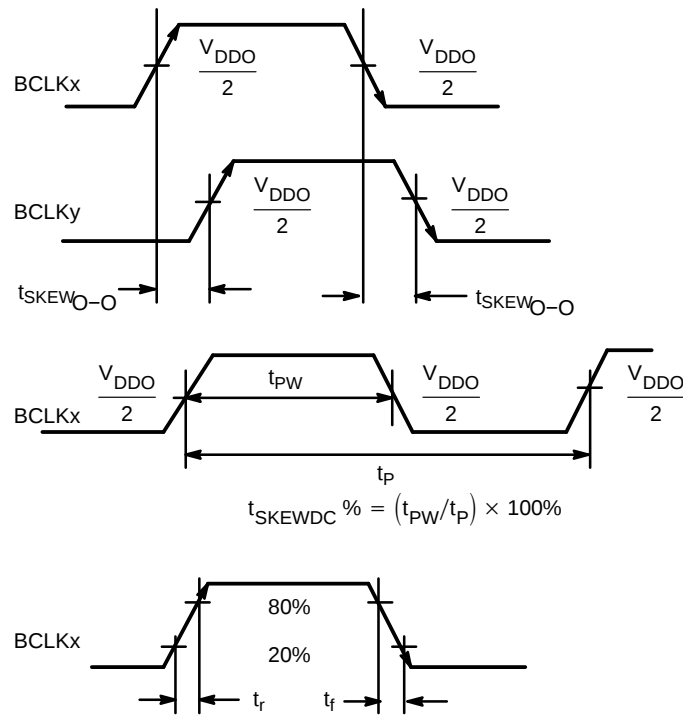

Figure 4. AC Reference Measurement
5. Crystal inputs $\leq F_{\max}$. Outputs loaded with 50Ω to $V_{DDO}/2$. CLOCK (LVCMOS levels at XTAL1 input) 50% duty cycle. See Figures 4 and 7. See APPLICATION INFORMATION; Crystal Input Interface for CL loading.
5. Crystal inputs $\leq F_{max}$. Outputs loaded with 50Ω to $V_{DDO}/2$. CLOCK (LVCMOS levels at XTAL1 input) 50% duty cycle. See Figures 4 and 7. See APPLICATION INFORMATION; Crystal Input Interface for CL loading.